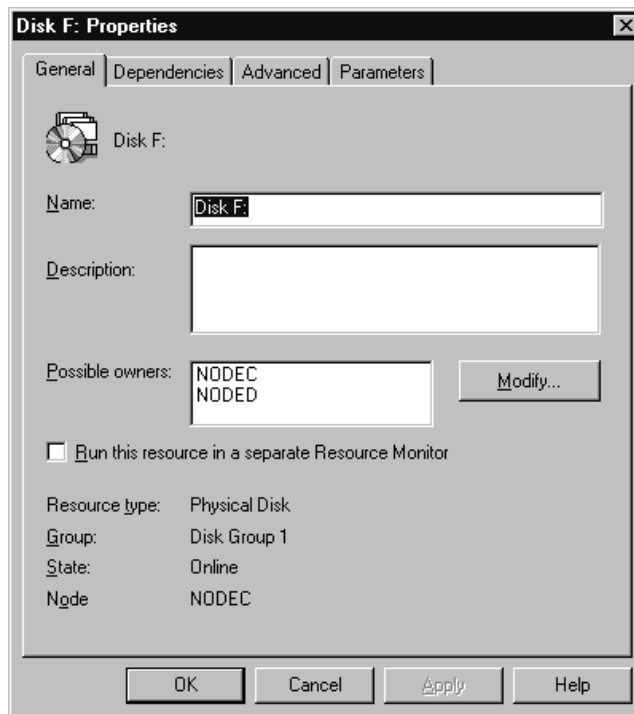

Figure 20. The Resource Properties window
7. Select **Next**. This opens the Properties window for this resource (see Figure 20).
1. Select **Discover Clusters** from the Utility pull-down menu, or select the **Discover Clusters** button from the Cluster Manager window button bar. The Discover Clusters window opens (see Figure 20 on page 75).